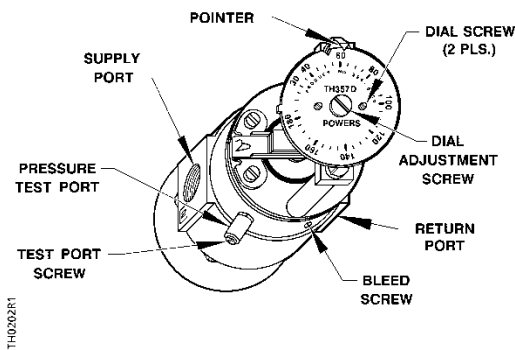

Figure 8. LIMITEM® Cover Removed.
2. With a screwdriver, turn the dial adjustment screw to change to the desired setpoint. See Figure 8.
3. If a permanent return air gauge is not installed, use the pressure test port. See Figure 8 for its location.
1. Loosen the dial screws. See Figure 8.